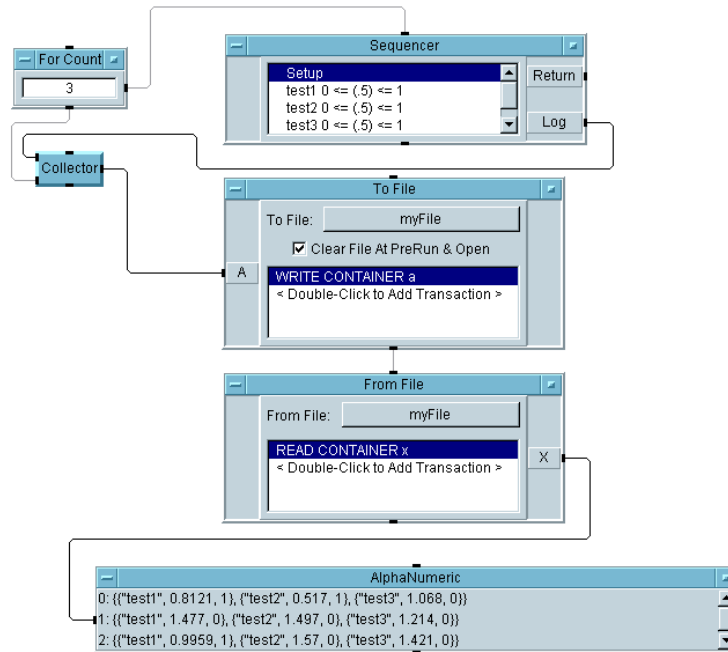

Figure 9-16. Storing Logged Data with To/From File
5. Run the program. It should look like Figure 9-16.